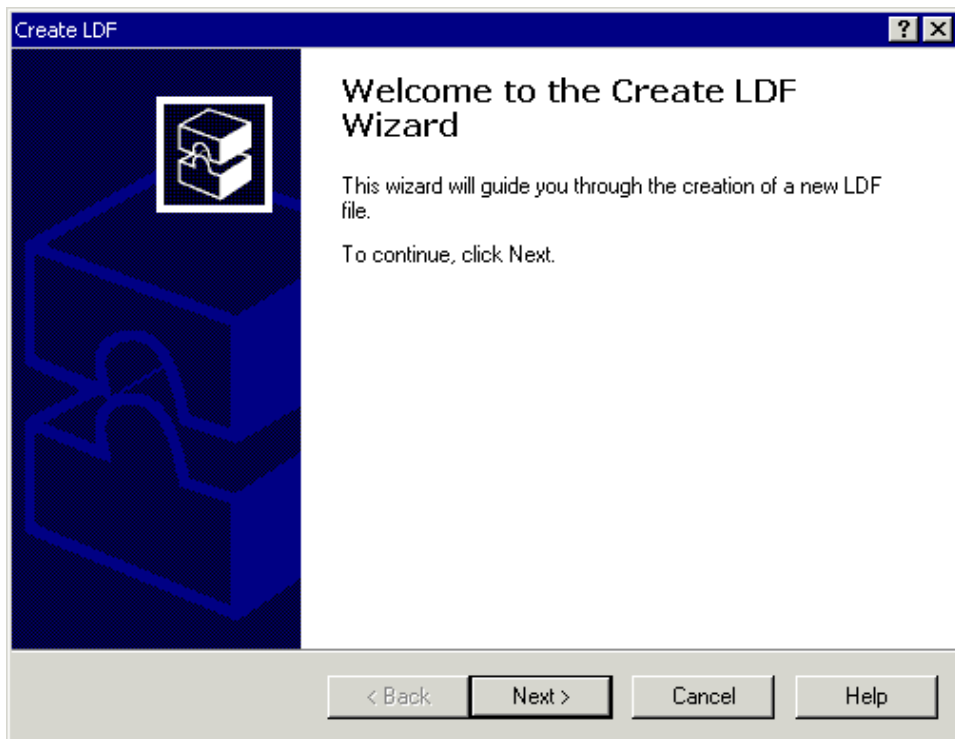

Figure 2-14. Create LDF Wizard
1. From the **Tools** menu, choose **Expert Linker** and then choose **Create LDF** to open the **Create LDF Wizard**, shown in Figure 2-14 on page 2-22.